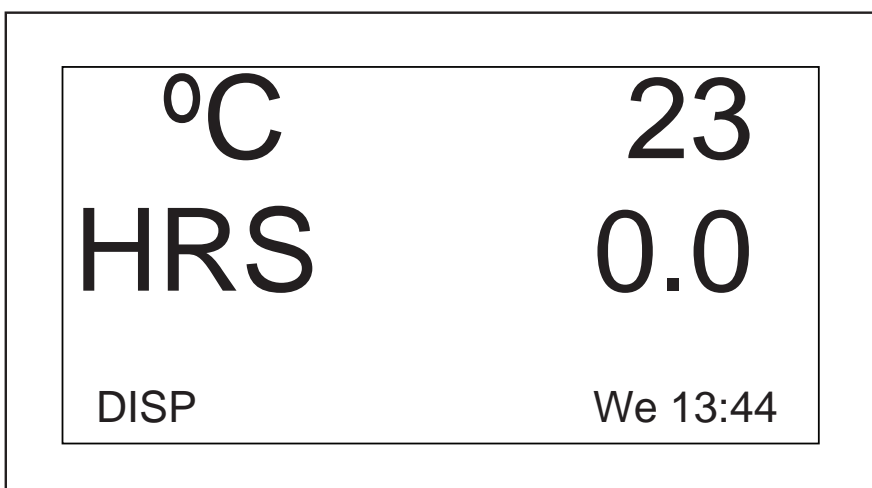

Fig. 9-2: Changed display parameter
4. Click the knob in to set and save the parameter (see Fig. 9-2 on p. 48).